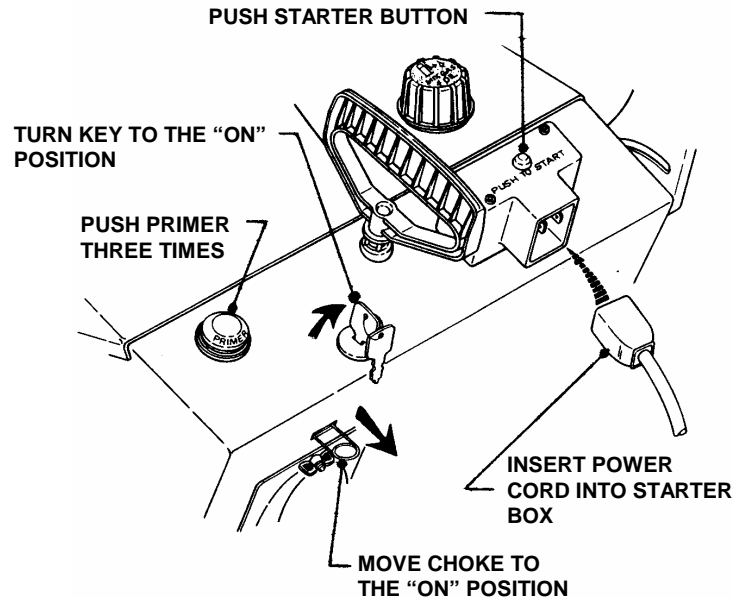

FIGURE 2.8
2. Move choke control to the choke "ON" position. See Figure 2.8.
5. Push the electric starter button. DO NOT hold button for more than 20 seconds to avoid damaging the starting motor. See Figure 2.8